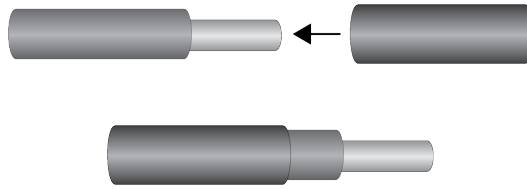

Figure 37. Sliding a Heat-shrink Tube Over the Grounding Wire
2. Slide a heat-shrink tube over the grounding wire. Refer to Figure 37